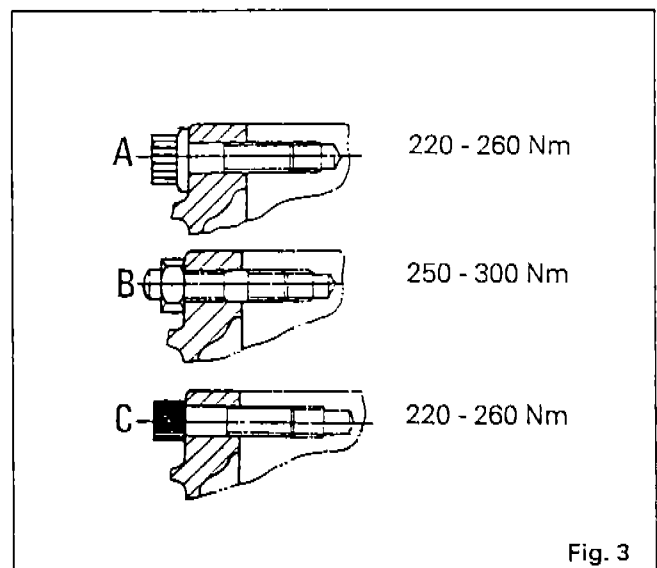

Fig. 3
22. Tighten the bolts and nuts to the torque values specified in Fig. 3 and 4.
23. Screw in and lock the pin (25). Position lever **F** and reconnect the control cable (see section 5 K01).